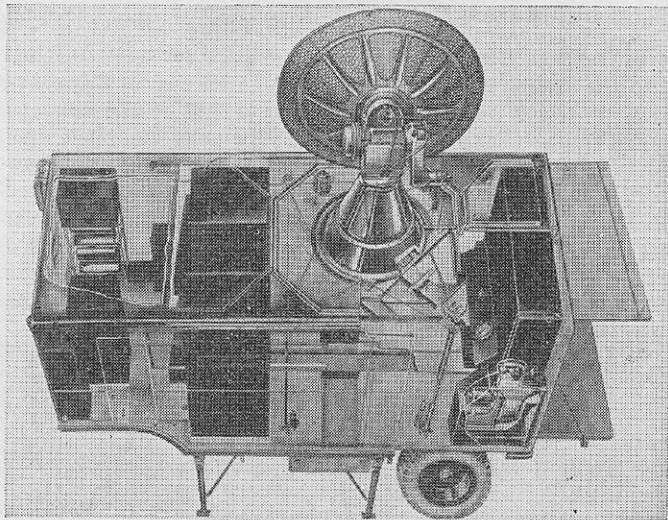

FIGURE 5.—Cut-away view of trailer.
h. The voltage adjuster is located between the modulator and the front of the trailer on the right side. At the front of the trailer is located a rack containing the dehydrator and the azimuth and elevation motor generators. To the left front of the vehicle is found the trailer heater. (See fig. 5.)